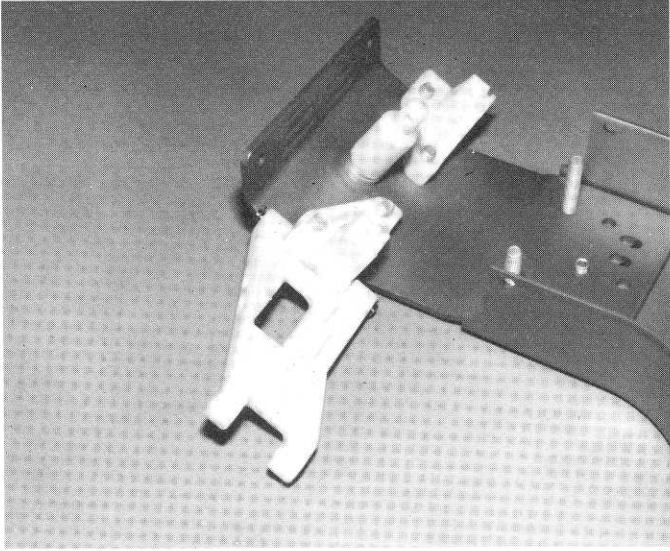

Fig. 8
□ **Fig. 8** Line up the A-arm with the mount and push the pin through. Using a small screwdriver, install an "E" clip on each end of the pin. Now install the R.H. side.